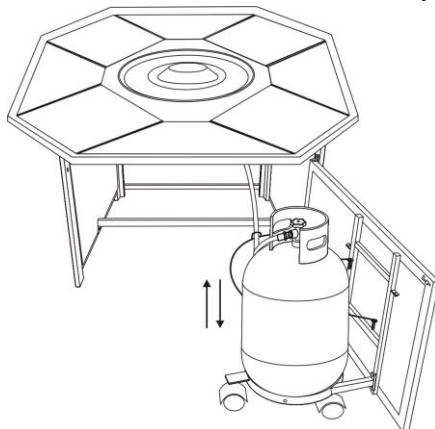
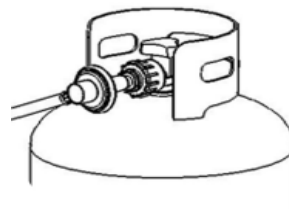

Figure 8
Figure 8a
8. Place gas tank onto the LP support as shown in Fig. 8. Connect the regulator as shown in figure.8a. Screw the black handle clock-wise to tighten. Turn the handle counter clock-wise to remove. The hose must point down. Check that the valve is turned all the way clockwise to the "OFF" position.